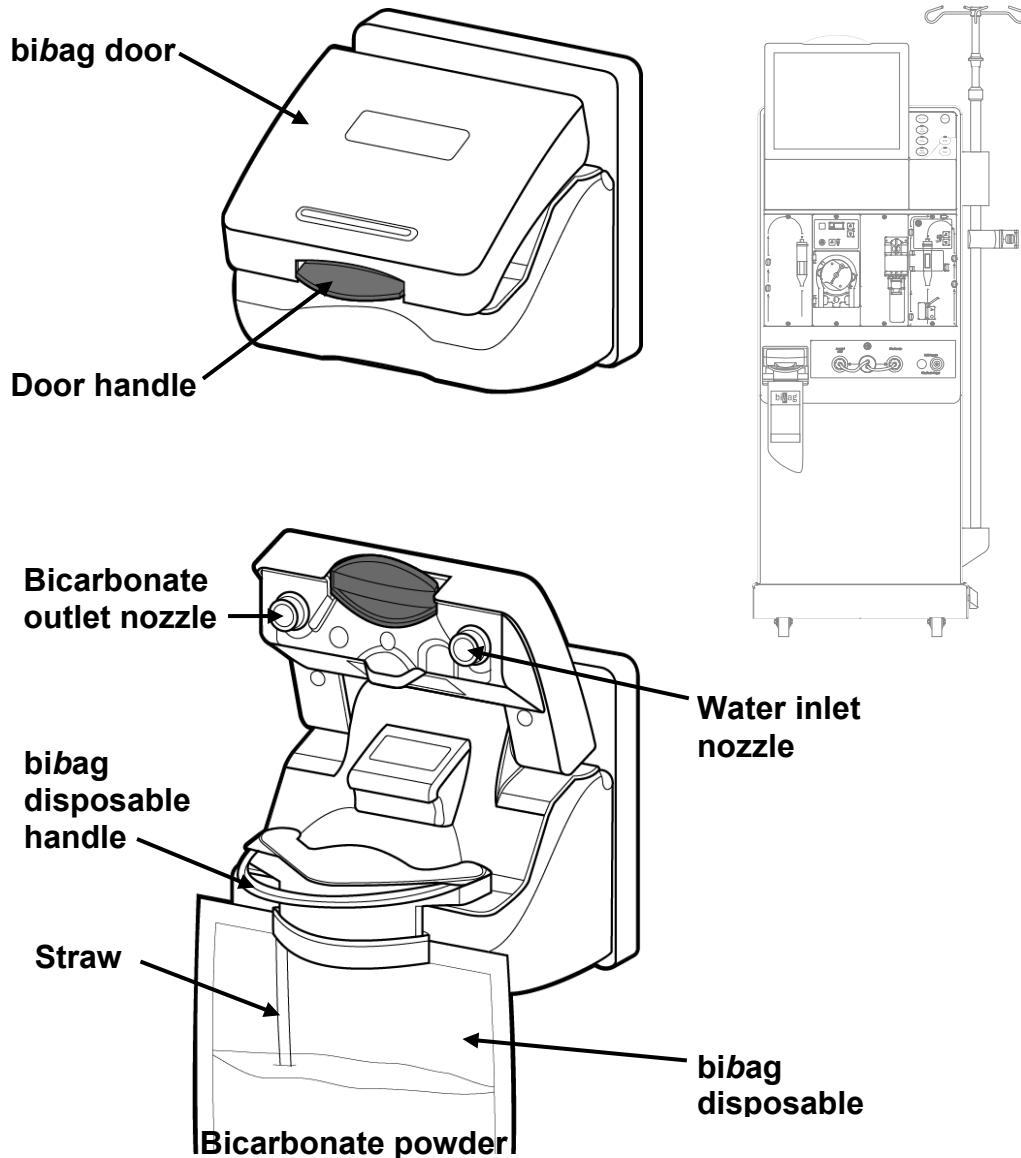

Figure 1 – *bibag* connector: door closed and *bibag* disposable inserted with door open
4. With the white bibag handle facing outward (see Figure 1), hang the bibag disposable on the bibag connector nozzles. Push it down until it is fully seated on the bibag connector nozzles.